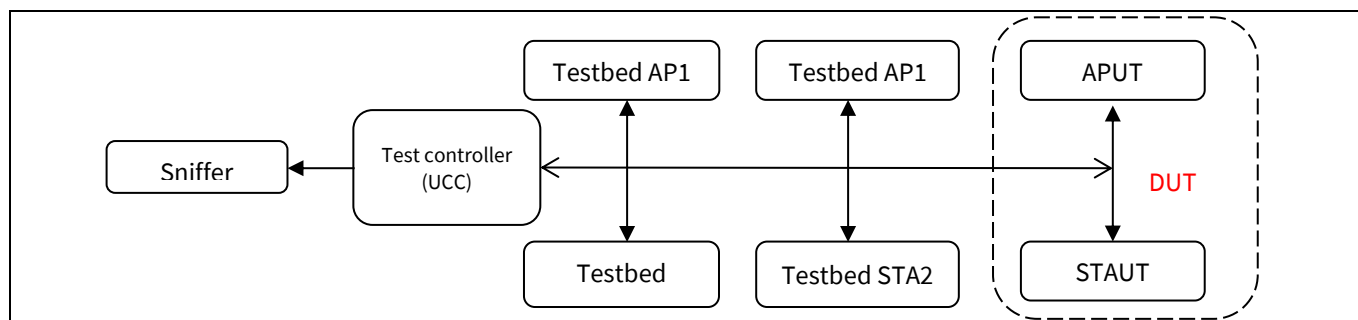

Figure 13 Typical WFA certification setup
Wi-Fi Alliance (WFA) has various certification programs such as 11ax, 11ac, 11n, WPS, and Wi-Fi Direct. It has station (STA) and access point (AP) modes. As shown in Figure 13, the major components of the test setup are the test controller, testbed APs, testbed STAs, sniffer, and device under test (DUT).